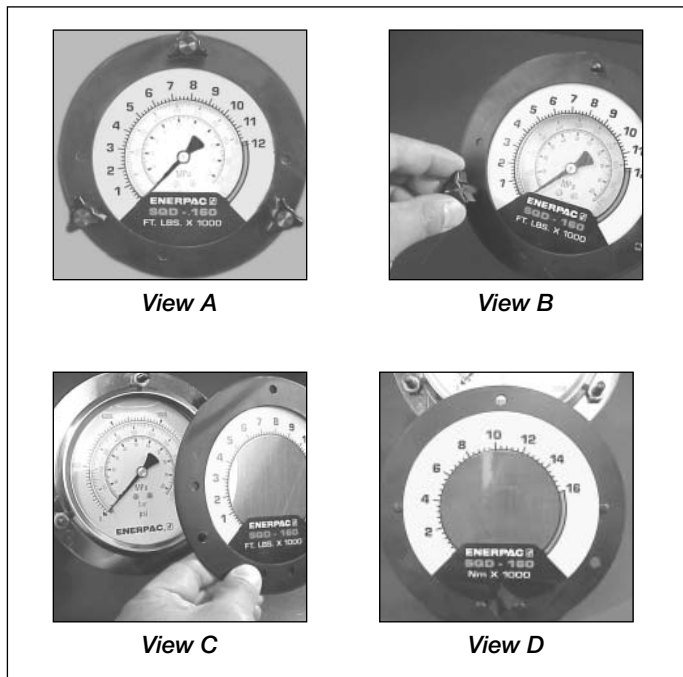

Figure 10, Overlay Installation
The pump is supplied with a pressure gauge installed. For your convenience, torque overlays are provided with each pump. A torque overlay fits over the pressure gauge dial face and easily converts pressure readings to torque readings (see Fig. 10, View A). The overlay has imperial units (Ft-Lbs.) on one side and metric units (Nm) on the other. To change scales simply slip overlay over.
1. Remove the three black wing knobs which hold the front gauge flange in place (see Fig. 10, View B).
2. Remove the front flange and overlay (see Fig. 10, View C).
3. Insert new overlay (remember to verify correct overlay to the Enerpac torque wrench being used) onto the flange, aligning the overlay with the dimples on the back of the flange (see Fig. 10, View D).
4. While holding the overlay behind the flange (see Fig. 10, View C) insert the flange onto the knob studs, repositioning the overlay as needed, and secure knobs finger tight (see Fig. 10, View B). The flange will press the overlay onto the gauge and secure it in place. See torque wrench instructions for amount of pressure required to produce desired torque. Note that the maximum pressure varies for different wrenches and accessories.